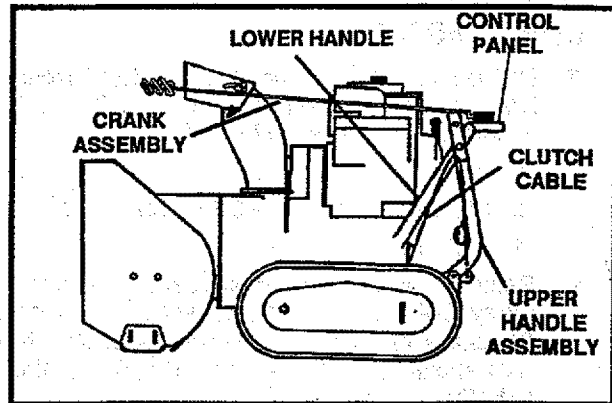
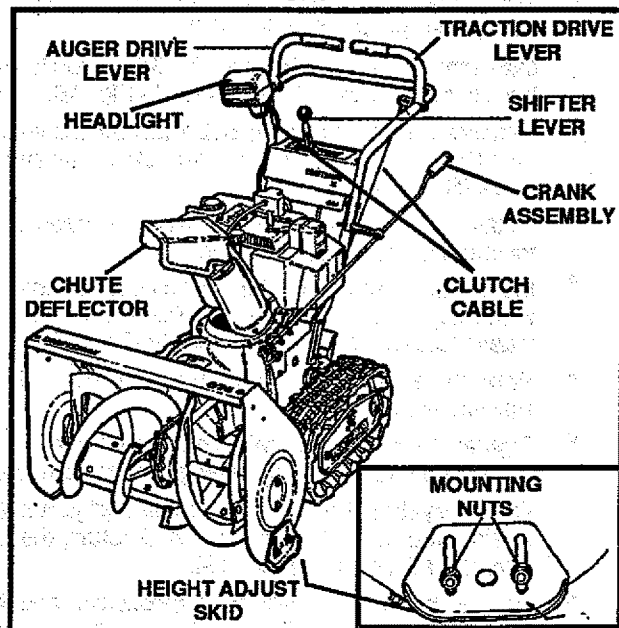

FIG. 1
FIG. 2
Figure 1 shows the snow thrower in the shipping position. Figure 2 shows the snow thrower completely assembled. Reference to the right and left hand side of the snow thrower is from the operator's position at the handle.
TO REMOVE SNOW THROWER FROM CARTON (See Fig 1)
- For packing, the height adjust skids were mounted with the bottom lip turned inward. Remove skid mounting nuts (Fig. 2) and remount with the lip outward.
- Remove the nut on the pivot bolt (Fig. 5A), place headlight in correct position (as shown in Fig. 5B and in Fig 2), and retighten nut.